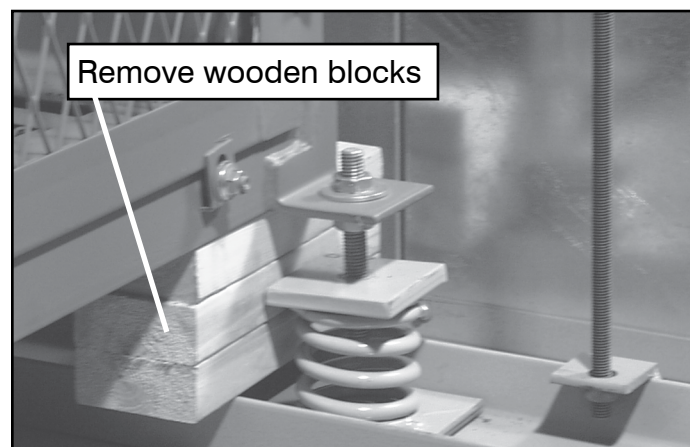

FIGURE 26. Fan shipping restraints located at the base of the fan.
- 2) Remove wooden blocks and any shipping restraints and discard (See **FIGURE 26**).